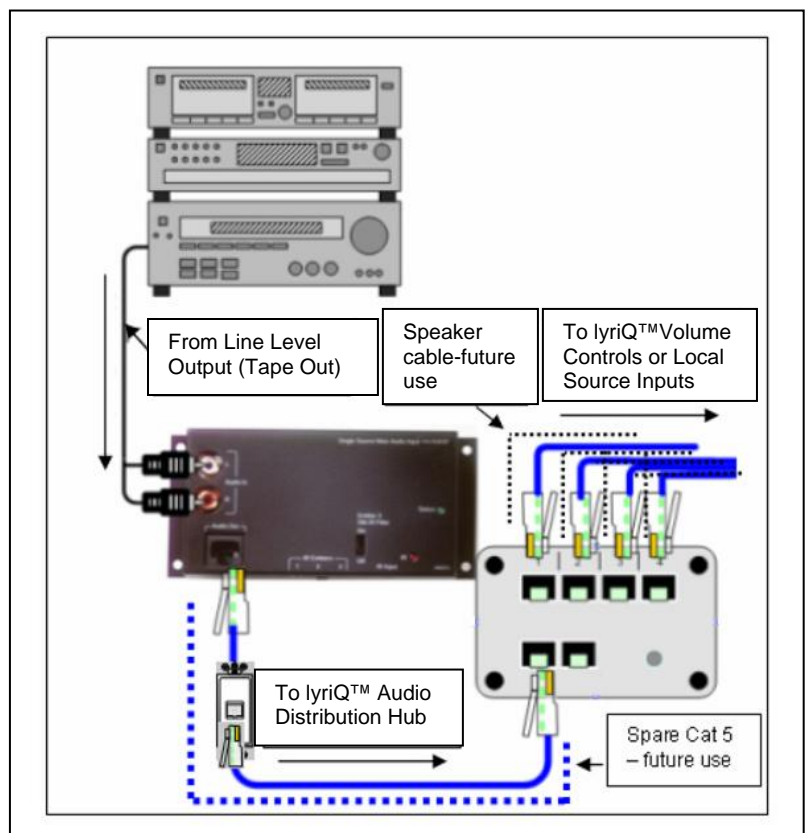

Figure 2
3. Connect the lyriQ™ Single Source Input AUDIO OUT jack via a Category 5 jumper such as the 36" PN 363201-30, to a wall jack with an RJ-45 insert. This jack in turn should be wired to the SOURCE IN jack of the lyriQ™ Audio Distribution Hub (see **Figure 2**).
4. Connect the Category 5 cables coming from the room locations containing the lyriQ™ Volume Controls to the Zone Output jacks on the lyriQ™ Audio Distribution Hub (see **Figure 2**).